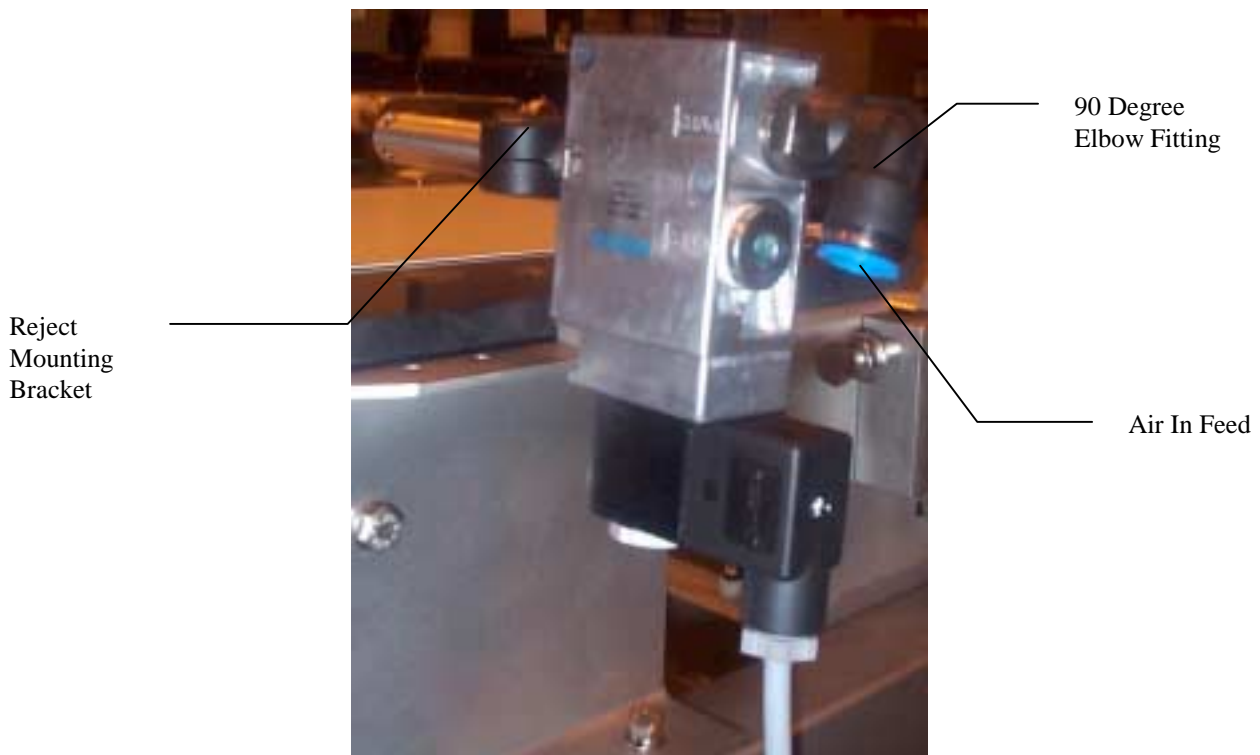

Figure 7.9 Direct Air Supply Connection to an Air Blast Reject
3. If the reject is an air-blast type, an air regulator is not fitted to the system. Refer to Figure 7.9.